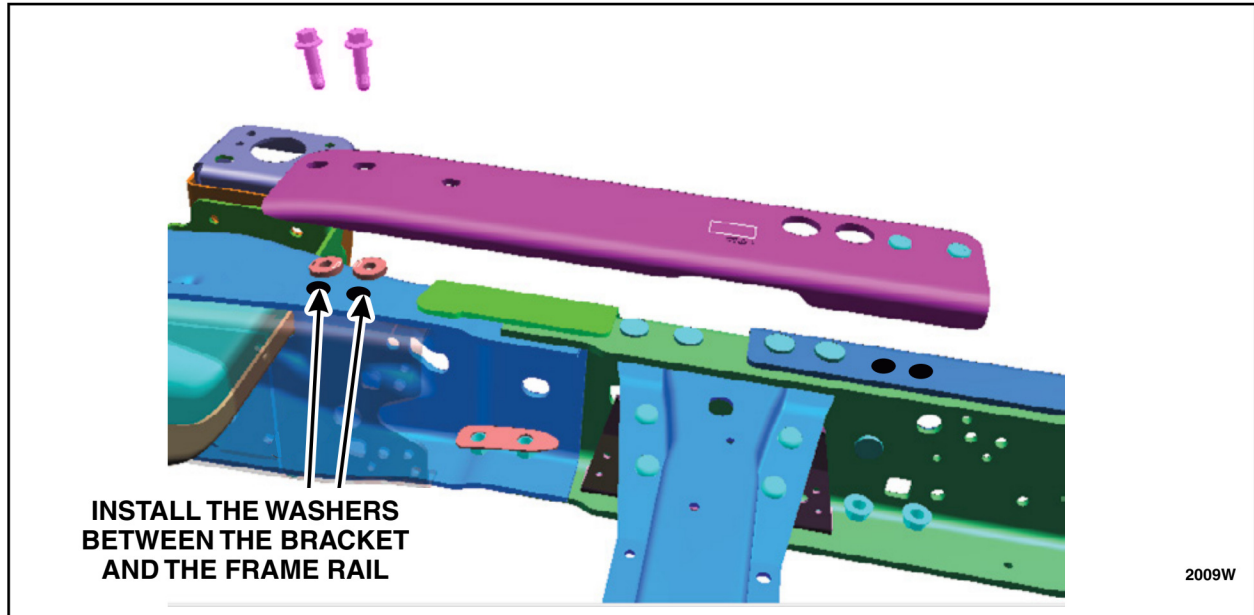

FIGURE 15
17. Install a spacer, Part Number LC3C-5113-CA, between the upper bracket and the frame rail, one for each bolt, then install front bracket to frame bolts in the front two holes and position the front nut plate in the frame and start the bolts into the nut plate. See Figures 15 and 16.